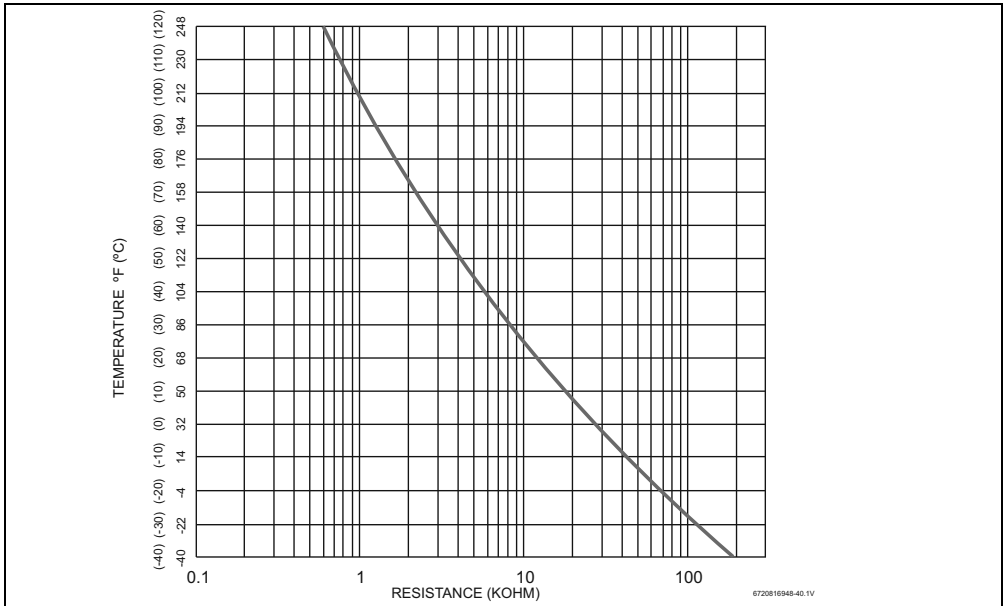

Fig. 68 Inlet, outlet and heat exchanger water temperature sensors characteristics
2) see temperature resistance charts in fig. 68 and 69.